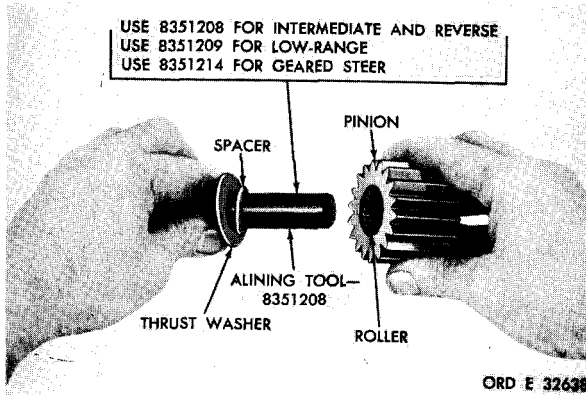

Figure 215. Assembling planetary carrier pinion components
b. Grease the inside diameter of planetary carrier pinion (fig. 215).
*c. Insert 22 spindle rollers into one end of the pinion bore (fig. 215).
d. Place a thrust washer and spacer on alining tool 8351208 (fig. 215).
c. Insert 20 spindle rollers into the pinion bore. Refer to fig. 215.
d. Place a thrust washer and spacer on alining tool 8351209. Refer to fig. 215.